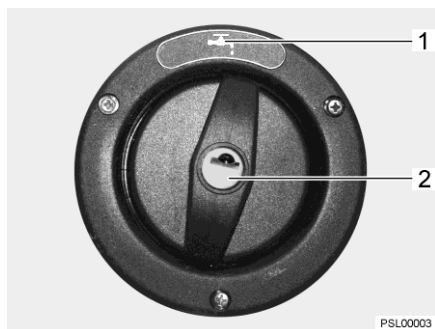

Fig. 60 Cap for the drinking water filler neck
The drinking water filler neck is indicated by the symbol "☞" (Fig. 60,1). The cap is opened and closed using the key for the external flap locks.
- Insert key into locking cylinder (Fig. 60,2) and turn a quarter turn in an anticlockwise direction.
- Open drinking water filler neck (Fig. 60).